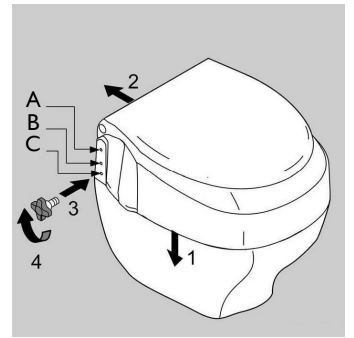

Fig. 7
5. Place the corpus on your toilet bowl, move it backward and hinge the desired slot with the pin of the crossbar. Secure the position with the two star screws. (Fig. 7)